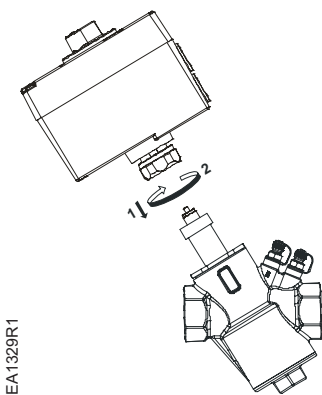

Figure 5.
- Place the actuator on the valve. See Figure 5.